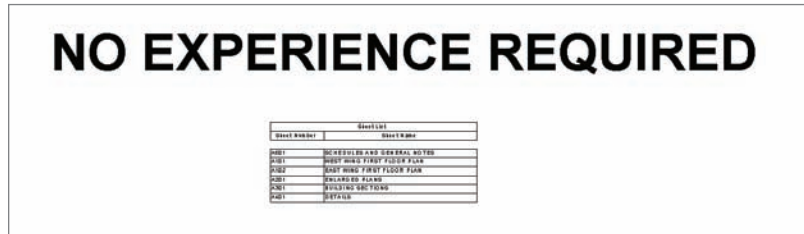

FIGURE 14.31 The completed title sheet
12. Select the schedule and adjust it so the text is readable. Your title sheet, although not very glorious, should look like Figure 14.31.